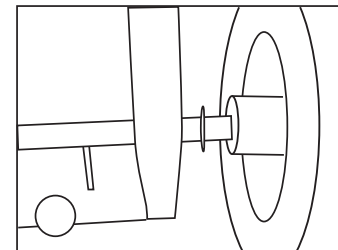

Fig 1
1. Slide the axle through the wheel slots on the back of the Pull Cart (Fig 1).